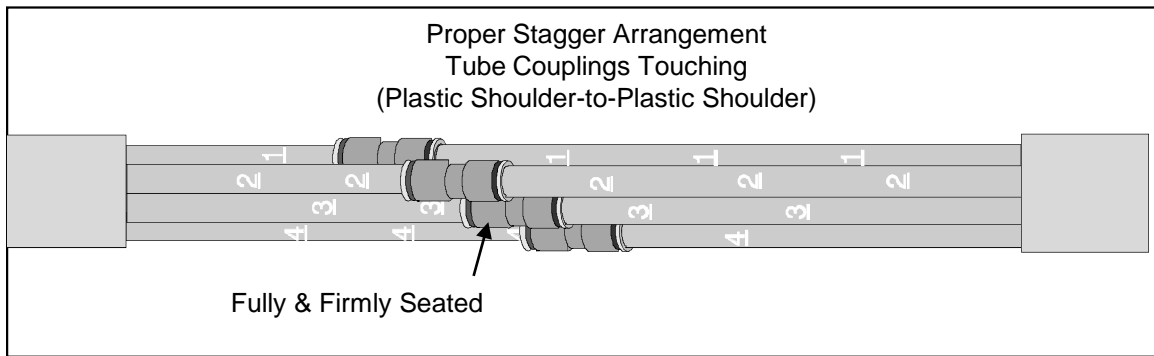

Figure 8
8.3 Connect tube cable ends together by first coupling tube with highest number to its mate. Then continue coupling tubes in descending numerical sequence. Be sure each tube is pushed all the way into its coupling and fully and firmly seated. **See Fig. 8.**